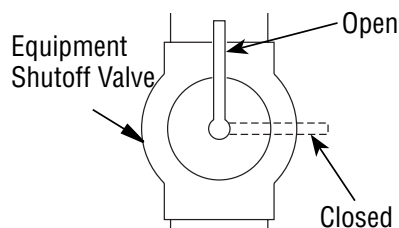

Figure 15 - Equipment Shutoff Valve
1. Close equipment shutoff valve (see **Figure 15**).
1. Open equipment shutoff valve (*see Figure 15, Page 16*).